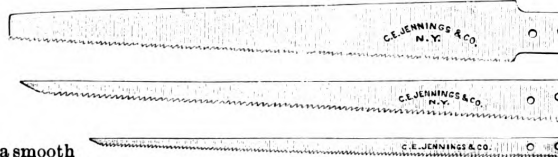

Fig. 5.—Jennings, Nest of Saws.
C. E. Jennings & Co. of 79 Reade street, New York City, are offering the trade a very convenient nest of saws, three in number, the combination embracing a keyhole, compass and panel saw. These saws, which are shown in Fig. 5, are made with thin back, are evenly tempered from butt to point by an improved process, are full bevel and are filed and set ready for use. The construction is such that the saw can be easily detached from the handle by simply removing a screw, but the saw cannot be pulled out when in use. A point to which